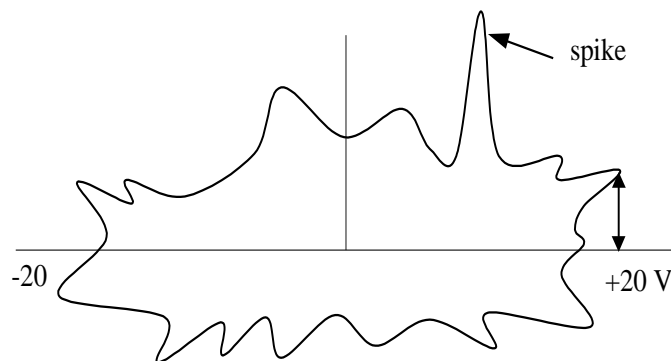

Figure 3: Gate current waveform
9. Check the gate waveform on the screen. If the gate is within specification, a waveform with a threshold current spike will appear. If the gate is a short circuit, only a straight line along the vertical axis will be seen. Figure 3 shows a typical example of a gate waveform: